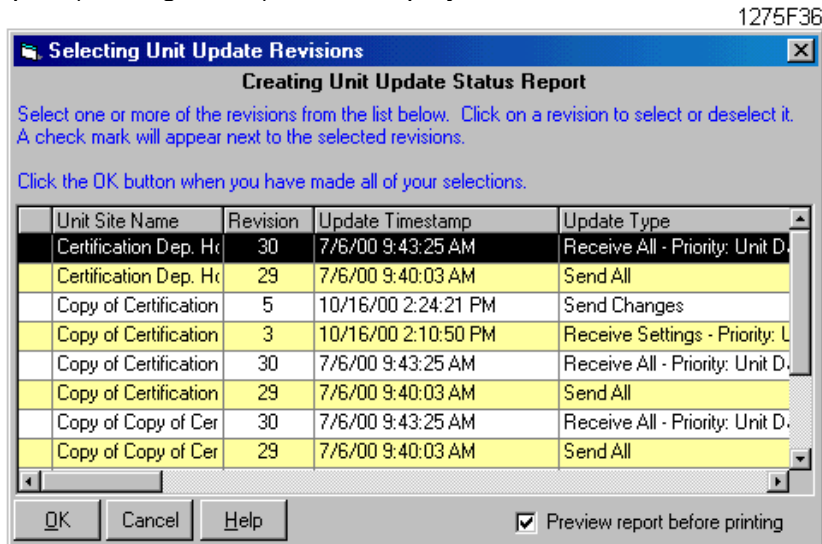

Figure 58: Selecting Unit Update Revisions Window
- 2 On the Selecting Unit Update Revisions window (see Figure 58), click in the row selector box (where the “✓” is in the figure).